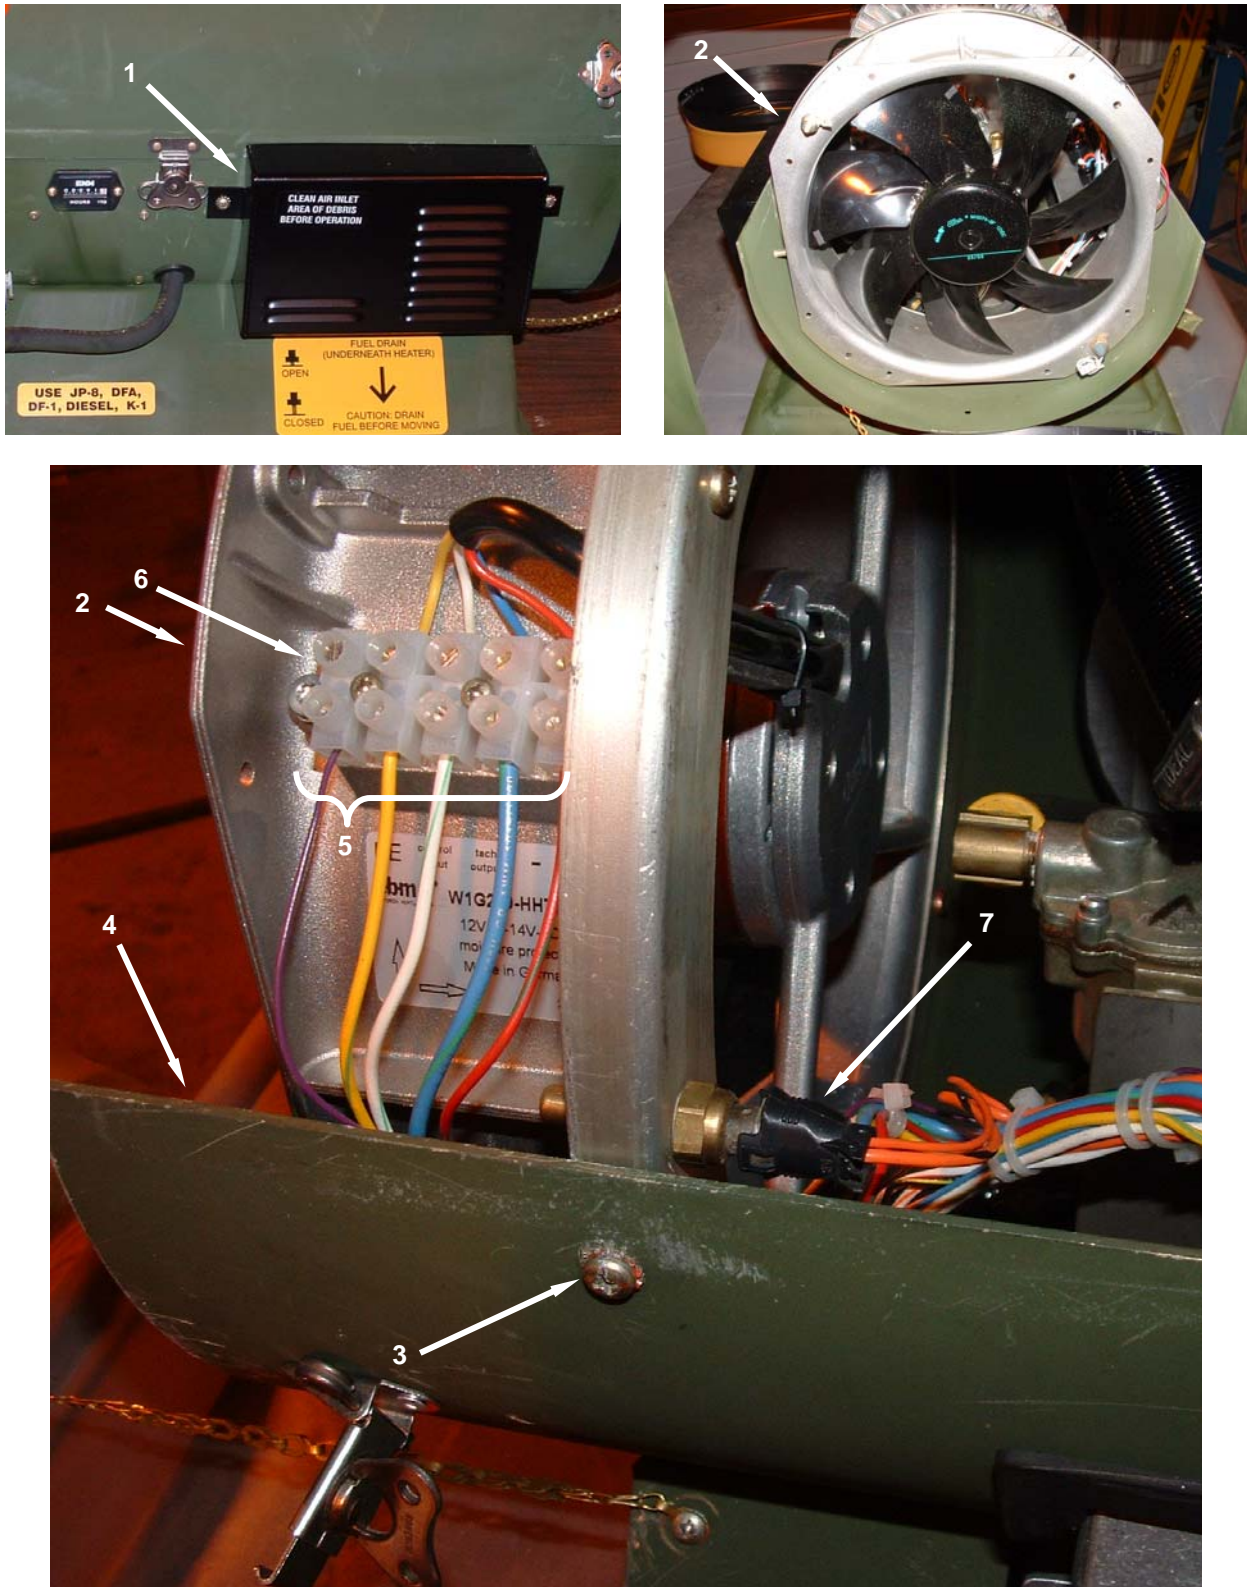

Figure 2. Replace the Heated Air Blower Assembly.
1. Remove air inlet cover (**Figure 2, Item 1**).
2. Remove all spare parts that may be stored on the heated air blower assembly (**Figure 2, Item 2**) and set aside.
3. Remove three screws (**Figure 2, Item 3**) that secure the heated air blower assembly (**Figure 2, Item 2**) to lower assembly (**Figure 2, Item 4**).
4. Tag wires (**Figure 2, Item 5**) on both sides of terminal connector (**Figure 2, Item 6**) to ensure proper replacement.
5. Loosen terminal screws inside the air blower assembly connectors (**Figure 2, Item 6**); disconnect wires (**Figure 2, Item 5**) from heated air blower assembly. Pull wires from the heated air blower assembly (**Figure 2, Item 2**).
6. Disconnect the inlet air temperature sensor (**Figure 2, Item 7**).
7. Remove the heated air blower assembly (**Figure 2, Item 2**).
8. Position the heater air blower assembly (**Figure 2, Item 2**), over the three holes on the lower assembly (**Figure 2, Item 4**).
9. Pull wires (**Figure 2, Item 5**) through the heated air blower assembly (**Figure 2, Item 2**).
10. Install the heated air blower assembly (**Figure 2, Item 2**) to lower housing assembly (**Figure 2, Item 4**), and retain with three screws (**Figure 2, Item 3**).
11. Place wires (**Figure 2, Item 5**) inside the air blower assembly connectors (**Figure 2, Item 6**); tighten terminal screws to secure.
12. Reconnect the inlet air temperature sensor (**Figure 2, Item 7**).
13. Install the air inlet cover (**Figure 2, Item 1**).